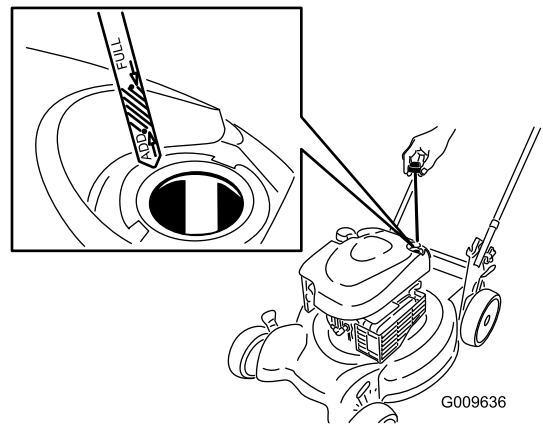

Figure 21
2. Remove the dipstick (Figure 21).
4. **Slowly** pour oil into the oil fill tube until the oil level reaches the **Full** line on the dipstick (Figure 21). **Do not overfill.** (Max. fill: 20 oz. (0.59 l), type: SAE 30 detergent oil with an API service classification of SF, SG, SH, SJ, SL, or higher.)